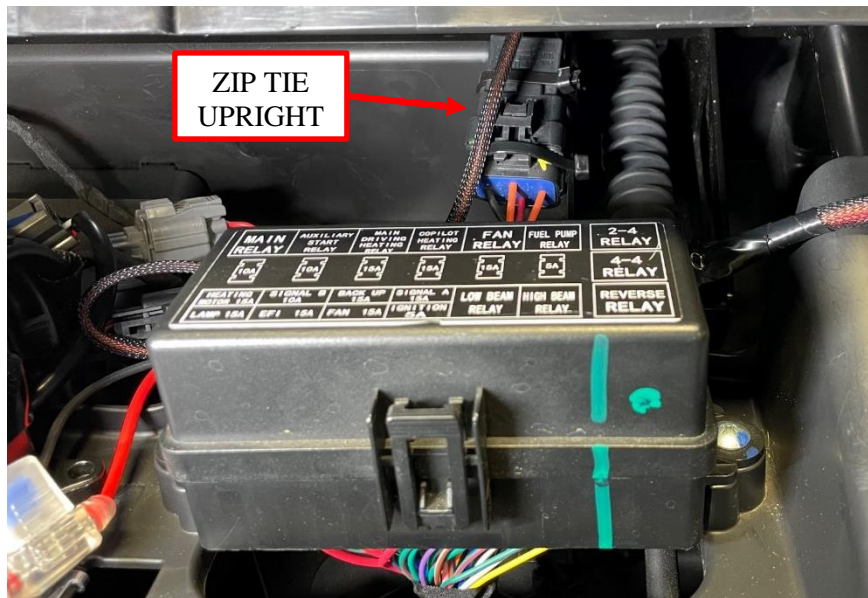
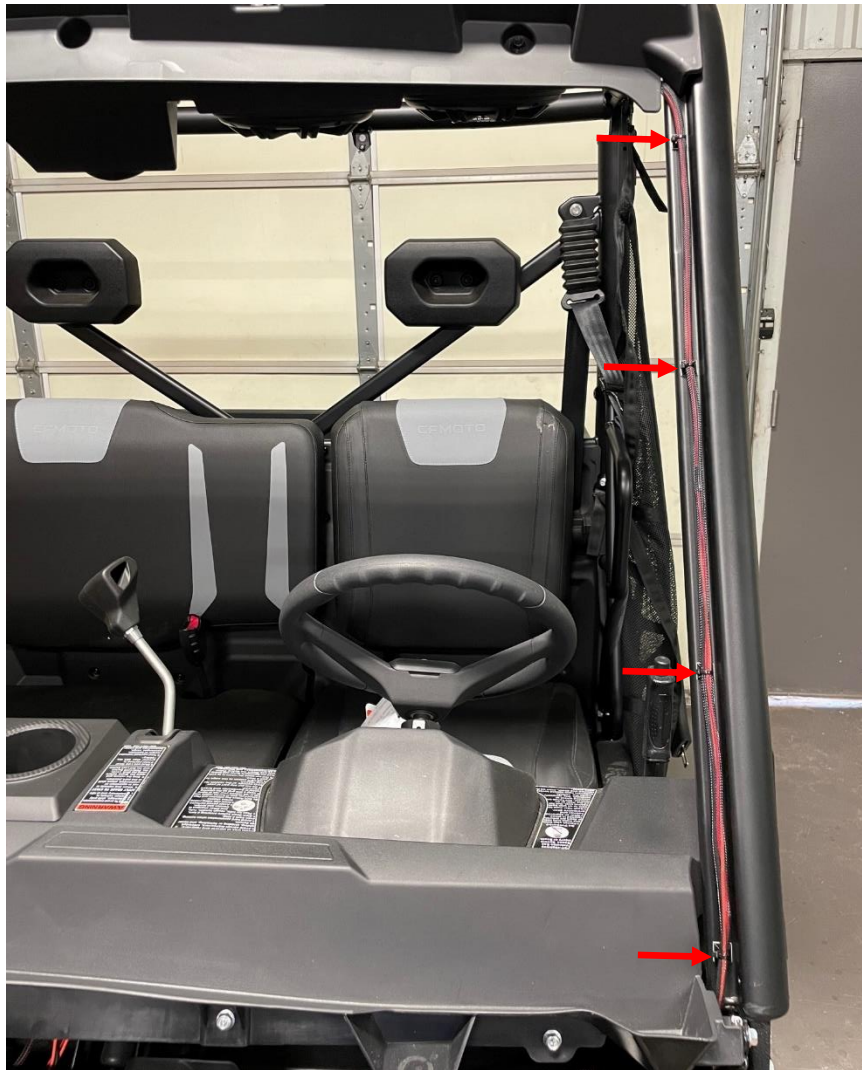

Figure 19: Secure the chassis harness under the hood.
Figure 20: Secure the chassis harness to the frame tube.
20. Zip tie the chassis harness under the hood, making sure to orient the relay upright as shown. Clean the cage surface with the provided alcohol wipe, and place zip ties and mounts at the indicated locations on the driver's front down tube. See Figure 19 and Figure 20. **Note: Apply the cable mounts in the recess of the down tube as shown if you do not have a windshield. If you have a windshield or plan to add one, apply the cable mounts to the inside of the down tube.**